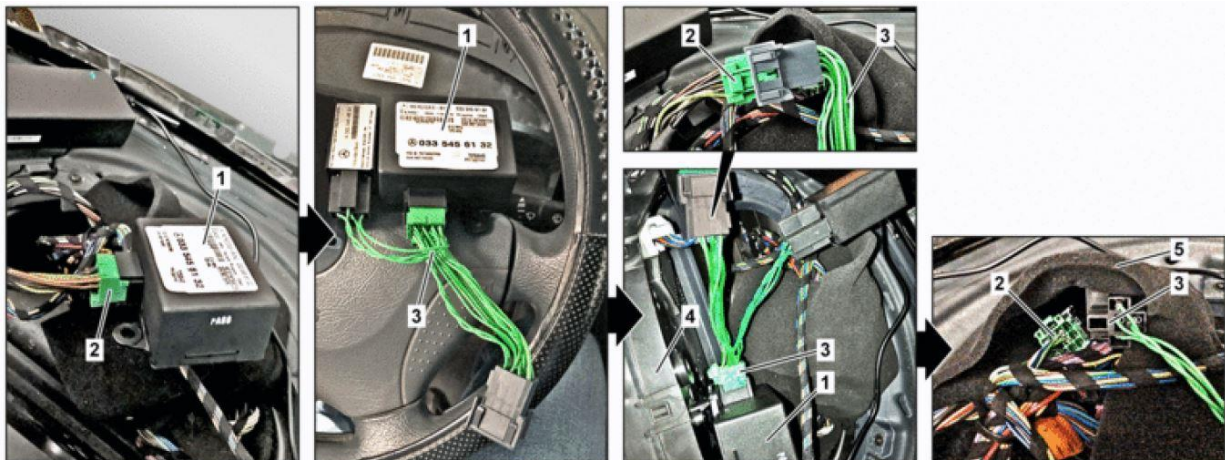

Figure 3 – Install Adapter Wiring Harness
- 23. Disconnect the electrical connector from the Remote Keyless Entry (RKE) immobilizer module on the back of the instrument cluster rear cover (Figure 3).
- 24. Install adapter wiring harness (3) and connect to RKE immobilizer module (1) (Figure 3).
- 25. Connect electrical connector (2) to adapter wiring harness (3) (Figure 3).
- 26. Wrap electrical connector (2) together with adapter wiring harness (3) in foam material (5) already present in the instrument panel (Figure 3).
NOTE: The foam material (5) will serve as chafe protection and soundproofing (Figure 3).